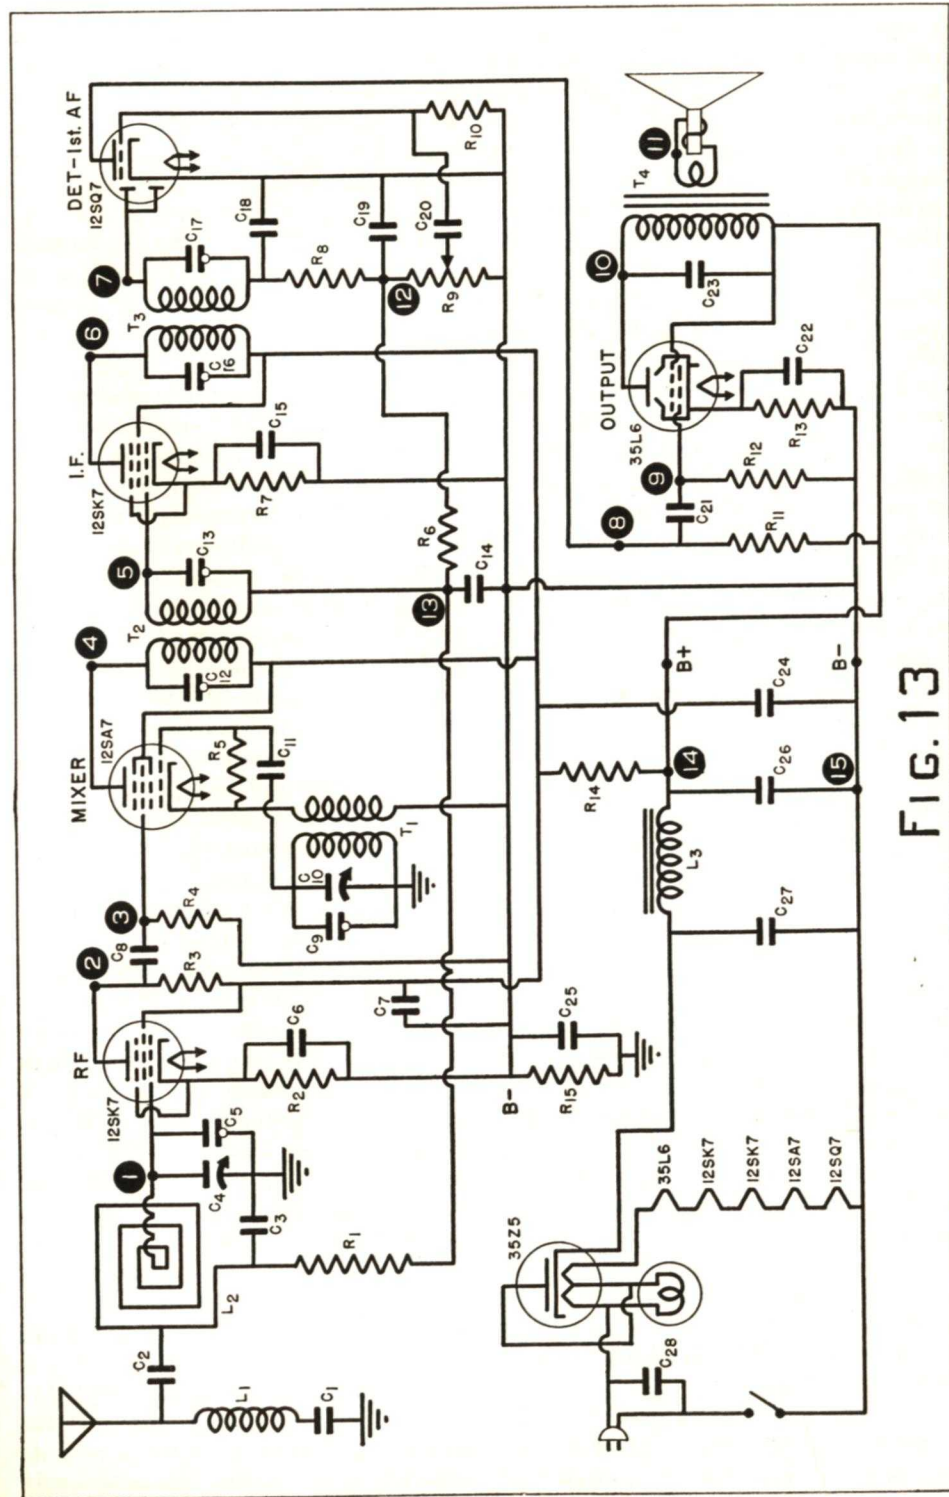

FIG. 13
**Signal Tracing.** Should you have a signal tracer, however, the problem is vastly simplified. The average signal tracer contains a section, known as an r.f.-i.f. channel, which is capable of tuning over the i.f. and the broadcast band. It may also contain a less sensitive section, called an oscillator channel, which will cover the oscillator and broadcast range of the receiver, also an a.f. channel, and perhaps a d.c. vacuum tube voltmeter. A typical instrument of this type is shown in Fig. 12. The advantage of this type of signal tracer is the fact that the signal progress can be observed at a number of points simultaneously. Let us see how you can use an outfit of this sort to check the typical a.c.-d.c. receiver shown in Fig. 13.
► You must make a ground return connection to the receiver. In standard a.c. sets, the ground lead of your signal tracer can be clipped to the set chassis. However, in a.c.-d.c. receivers (like that in Fig. 13) where there is no electrical connection to the chassis, you must find the B-circuit, particularly to measure a.v.c. and power supply voltages. Point 15, or any other point on the B— bus or lead, may be used for this connection. Many servicemen use the set side of the ON-OFF switch as a convenient connecting point.
8. Suppose an audio signal tracer shows an intermittent change in volume when at the junction of  $C_{20}$  and  $R_{10}$  in Fig. 13, but a steady signal exists at point 12. Which two parts are the most logical suspects?
9. Suppose the loudspeaker volume varies, but a signal tracer connected to point 9 of Fig. 13 shows a normal steady signal. Where is the trouble?
10. Where in Fig. 13 would you connect a high ohms-per-volt meter to determine whether the intermittent trouble is in the a.f. section or in the r.f. section?